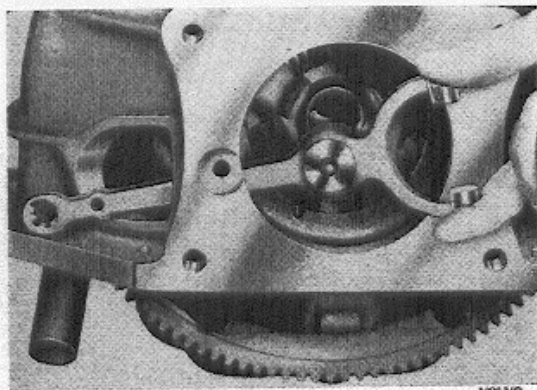

Fig. 5. Removing the clutch release fork.
3. Remove the release bearing (15).
5. Remove the release fork (17) by first slackening the ball joint (19) a few turns with a 17 mm set spanner and hold this still whilst unscrewing the bolt (18) on which the ball joint is fitted. Then turn the release fork half a turn and remove it from the rear, fig. 5.